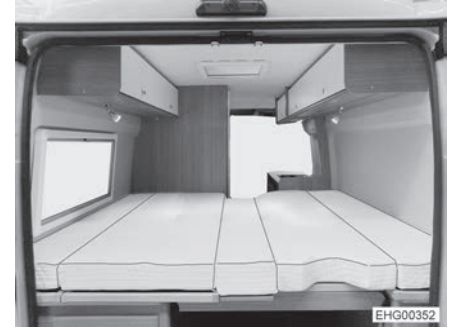

Fig. 36 Mattresses
- Place the mattresses (Fig. 36) on the bed base.